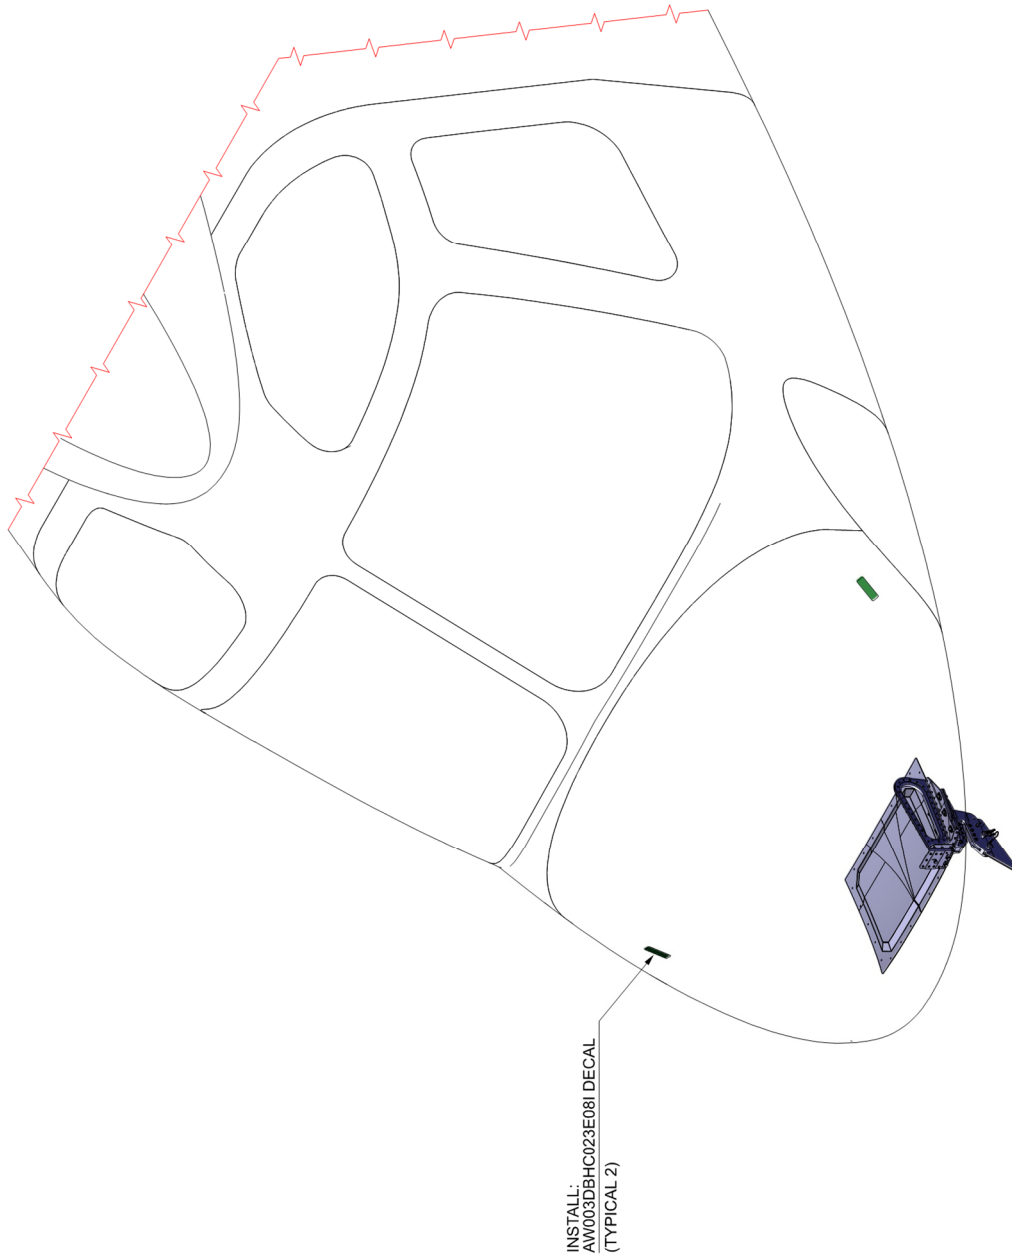

Figure 7
3. With reference to Figure 7, perform “Markings Lower Wire Strike” P/N 8G1120A18311 as described in the following procedure:
- 3.1 In accordance with DM 89-A-11-00-01-00A-720A-A and with reference to Figure 7, apply n°2 decals P/N AW003DBHC023E08I in indicated positions.